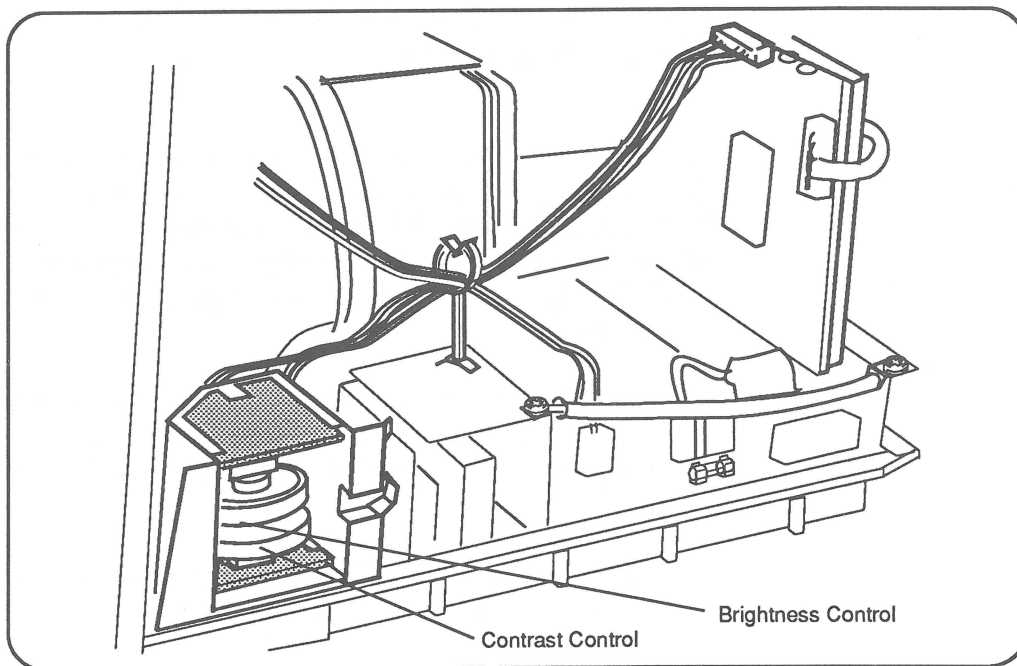

Figure 3-16 Brightness and Contrast Controls
8. **Figure 3-16.** Set the Brightness control to its detent position. To find the detent position, turn the knob fully clockwise, then counterclockwise. The place in the middle where the knob hesitates is the detent position.